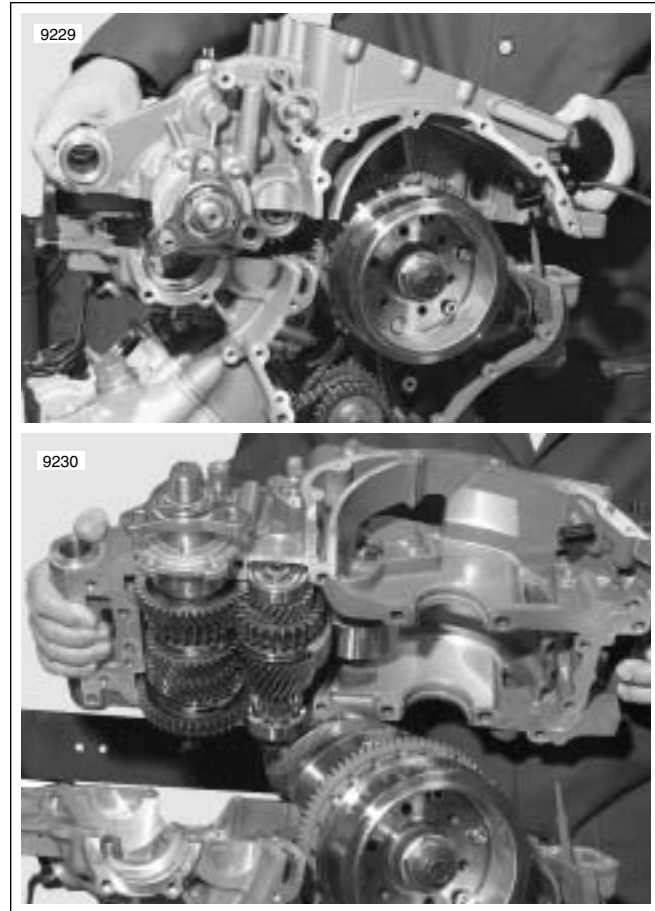

Figure 3-120. Separate Engine Cases
19. See Figure 3-120. Lift lower case by swing arm pivot housing and oil filter can.